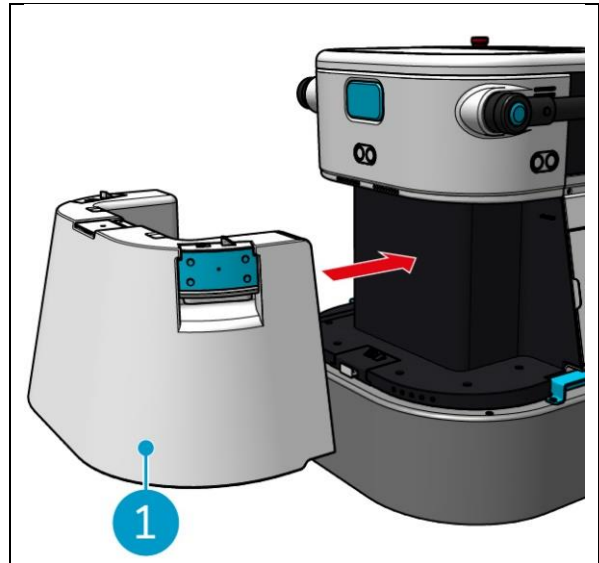

Figure 16
8. Slide the clean water tank back into the co-botic™ 45 using the blue handles, see Figure 16.